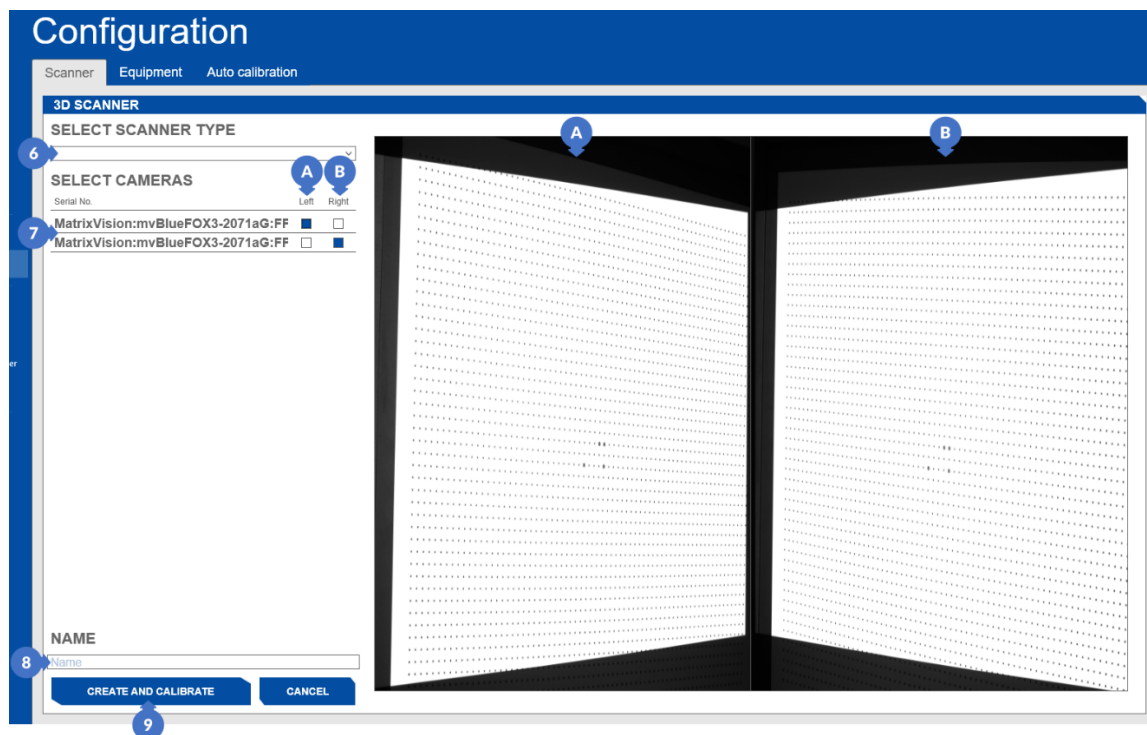

Figure 132. New scanner creation window
When the window is displayed, select the *SELECT SCANNER TYPE* (6) (Figure 132) type of scanner from the drop-down list. Next, make sure that the *SELECT CAMERAS* list (7) shows all cameras built into the device (there should be at least two) and that the image displayed on the left side of the window belongs to the left camera (A), and respectively from the right window to the right camera (B). A connection check can be done using the straightforward method of covering one of the cameras with the hand and observing the view. If the device has made the wrong selection of cameras, click on the field with the opposite camera in order to make